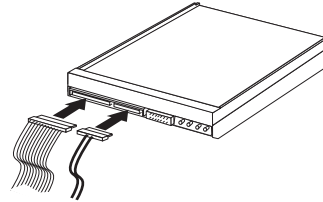

Figure 11. Connecting the five-wire power connector to the drive
3. Locate one of the extra five-wire power connectors and connect it to the drive. See Figure 11.